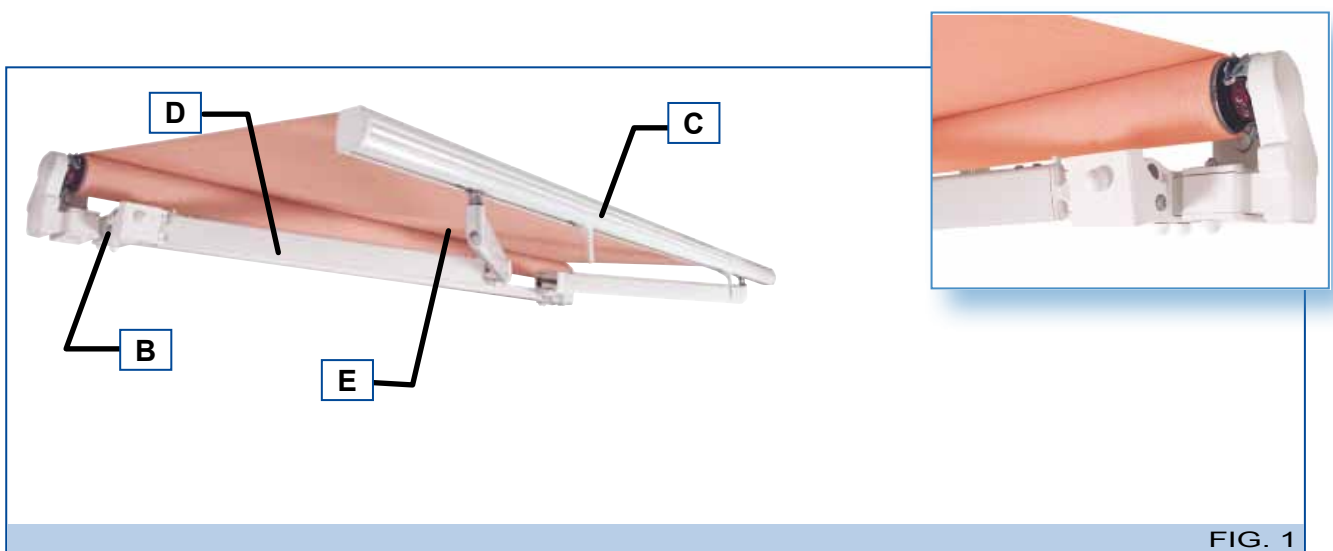

FIG. 1
- Metal structure: this consists of a frame containing the various mechanisms for opening and closing the awning. It comprises a square bar (A - Fig. 1), a terminal bar (B - Fig. 1) and mechanised folding arms (C - Fig. 1) fitted with sheathed cables or a stainless steel chain.
- Fabric (D - Fig. 1): this covers and protects the awning.